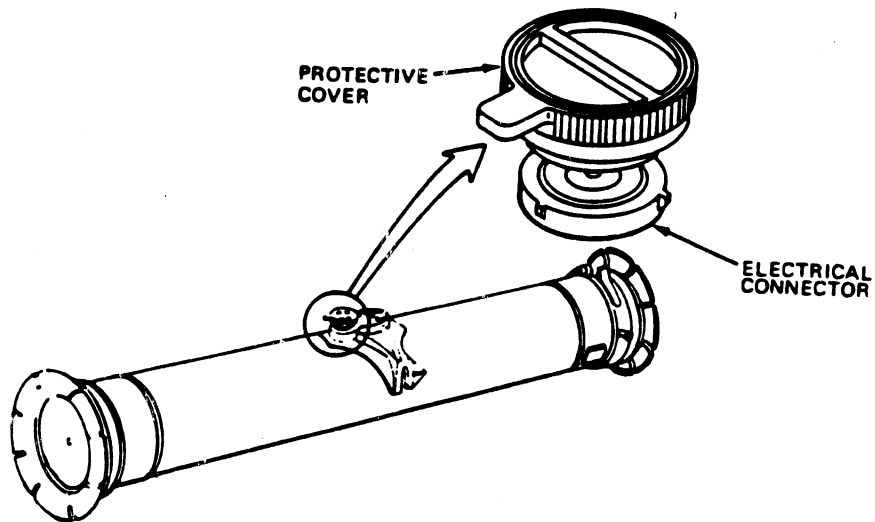

Fig 4-48. Replacing protective cover.
Step 6. Secure the protective cover on an encased missile by turning the cover clockwise, then the inside portion of the cover fully clockwise (fig 4-48).